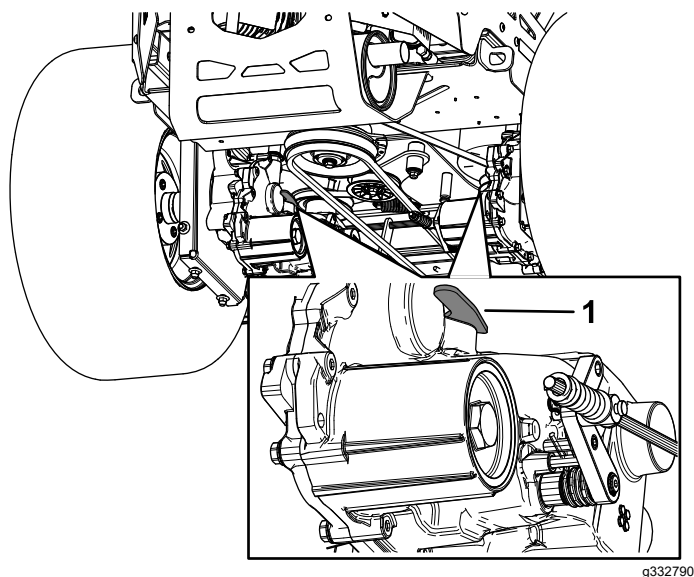

Figure 42
3. To push the machine, move both bypass levers forward and lock them into place (Figure 42).
5. To run the machine, move the bypass levers rearward and lock them into place (Figure 42).